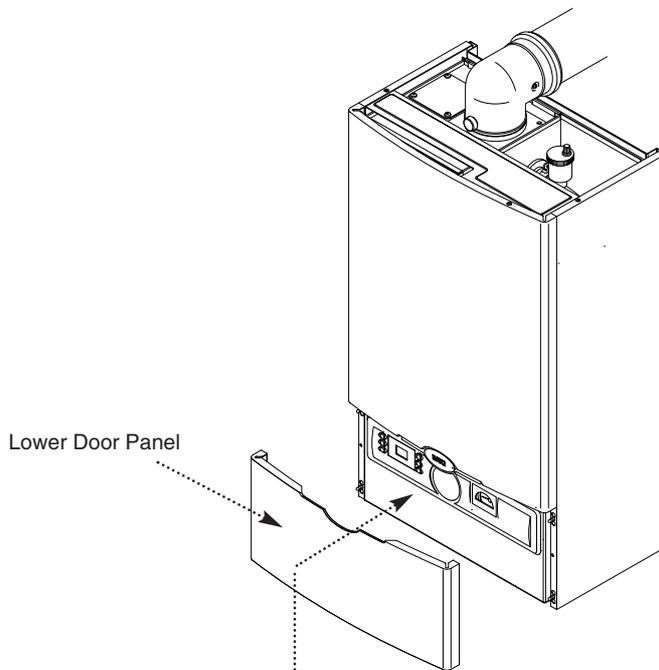

Fig. 1
2. Remove the lower door panel (Fig. 1).